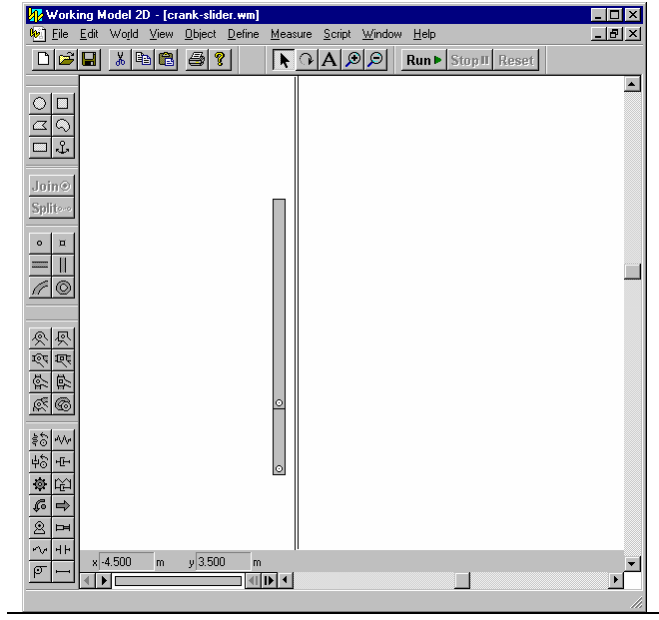

Figure 16. Crank slider example, Step 3.
3. Draw a longer link, overlapping the end of the small link and use a Pin Joint  to join the two links, Figure 16.